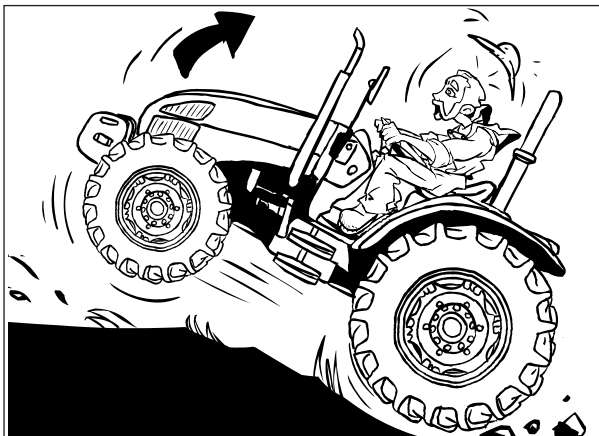

Fig.2-29
- If the front part of the tractor begins lifting, disengage the clutch at once (Fig.2-29).
- If your tractor is bogged down in mud or frozen to the ground, DO NOT attempt to drive forwards. The tractor can spin around its rear wheels and overturn (Fig.2-29). Lift any attached implement and attempt to BACK OUT. If this is not possible, tow it out with another vehicle.